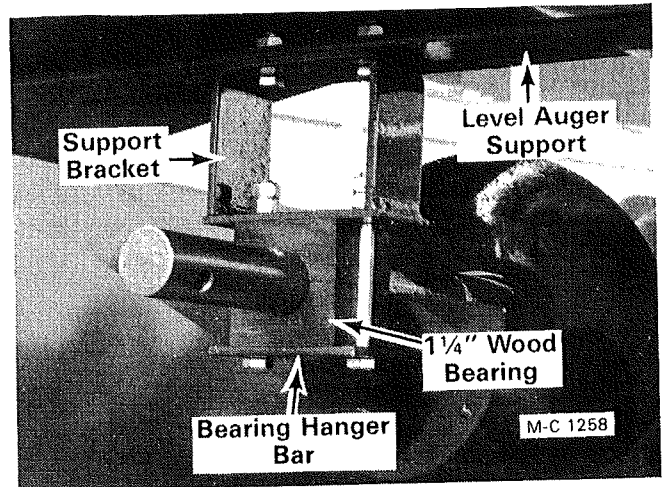

Figure 3
2. Bolt level auger bearing assemblies to level auger bearing support brackets and then to the level auger support(s). See Figure 3.